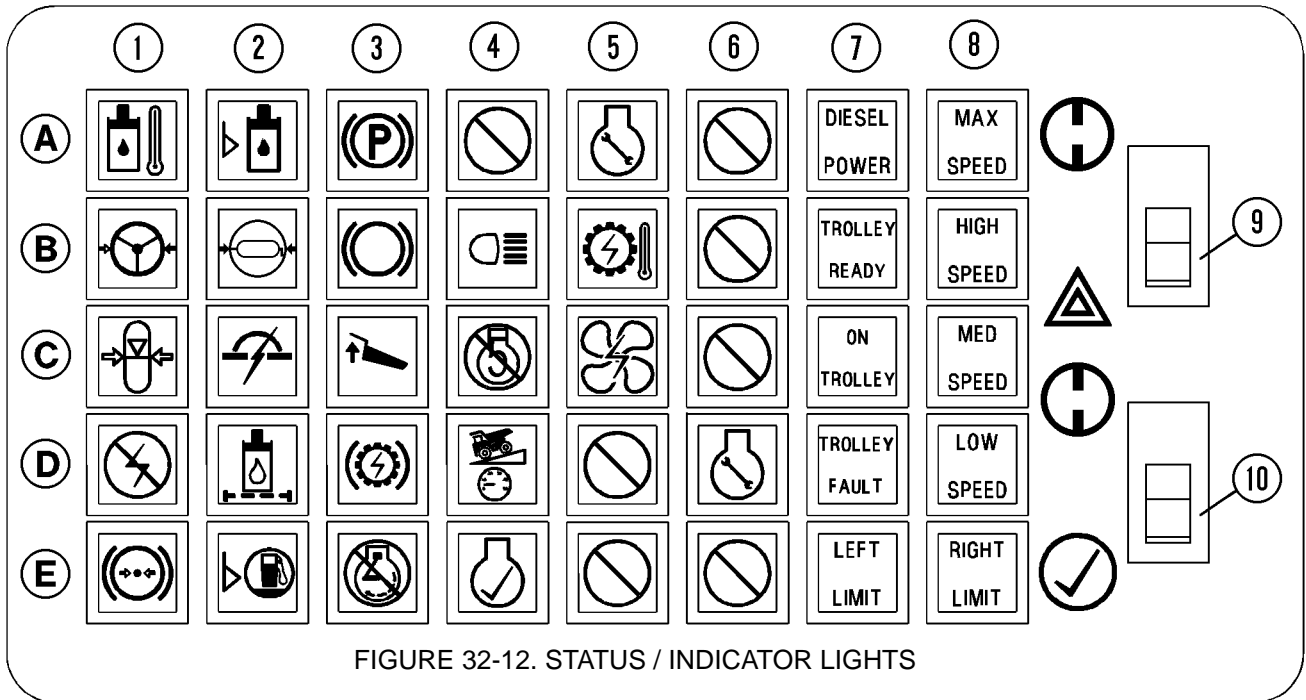

FIGURE 32-12. STATUS / INDICATOR LIGHTS
2. When the Engine Shutdown Timer has been activated, the Timer Delay indicator light in the overhead display panel (C4, Figure 32-12) will illuminate to indicate that the shutdown timing sequence has been started. The engine will continue to run at Idle RPM for approximately 5 minutes to allow for proper engine cool-down before stopping.
Refer to Figure 32-12 and the descriptions below for explanations of the symbols. Location of the symbols is described by rows (A-E) and columns (1 - 8).